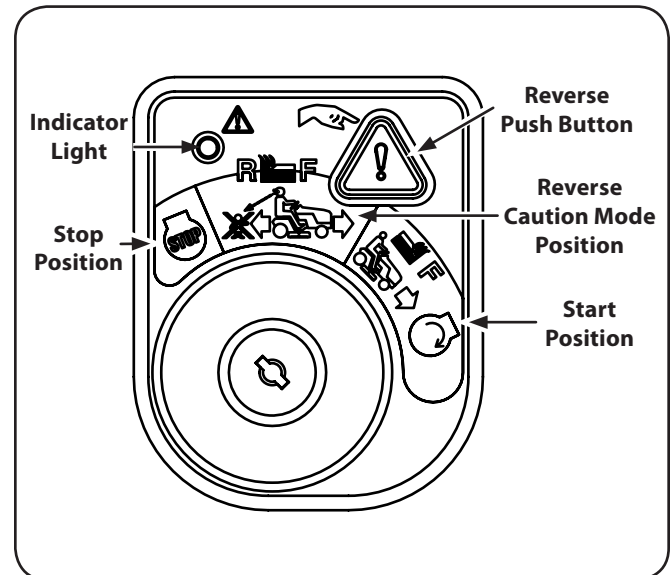

Figure 16
- Turn the key from the NORMAL MOWING  (Green) position to the REVERSE CAUTION MODE  (Yellow) position of the ignition switch module. See "Figure 16".
- Press the REVERSE PUSH BUTTON  (Orange, Triangular Button) at the top, right corner of the key switch module. The red indicator light at the top, left corner of the ignition switch module will be ON while activated. See "Figure 16".